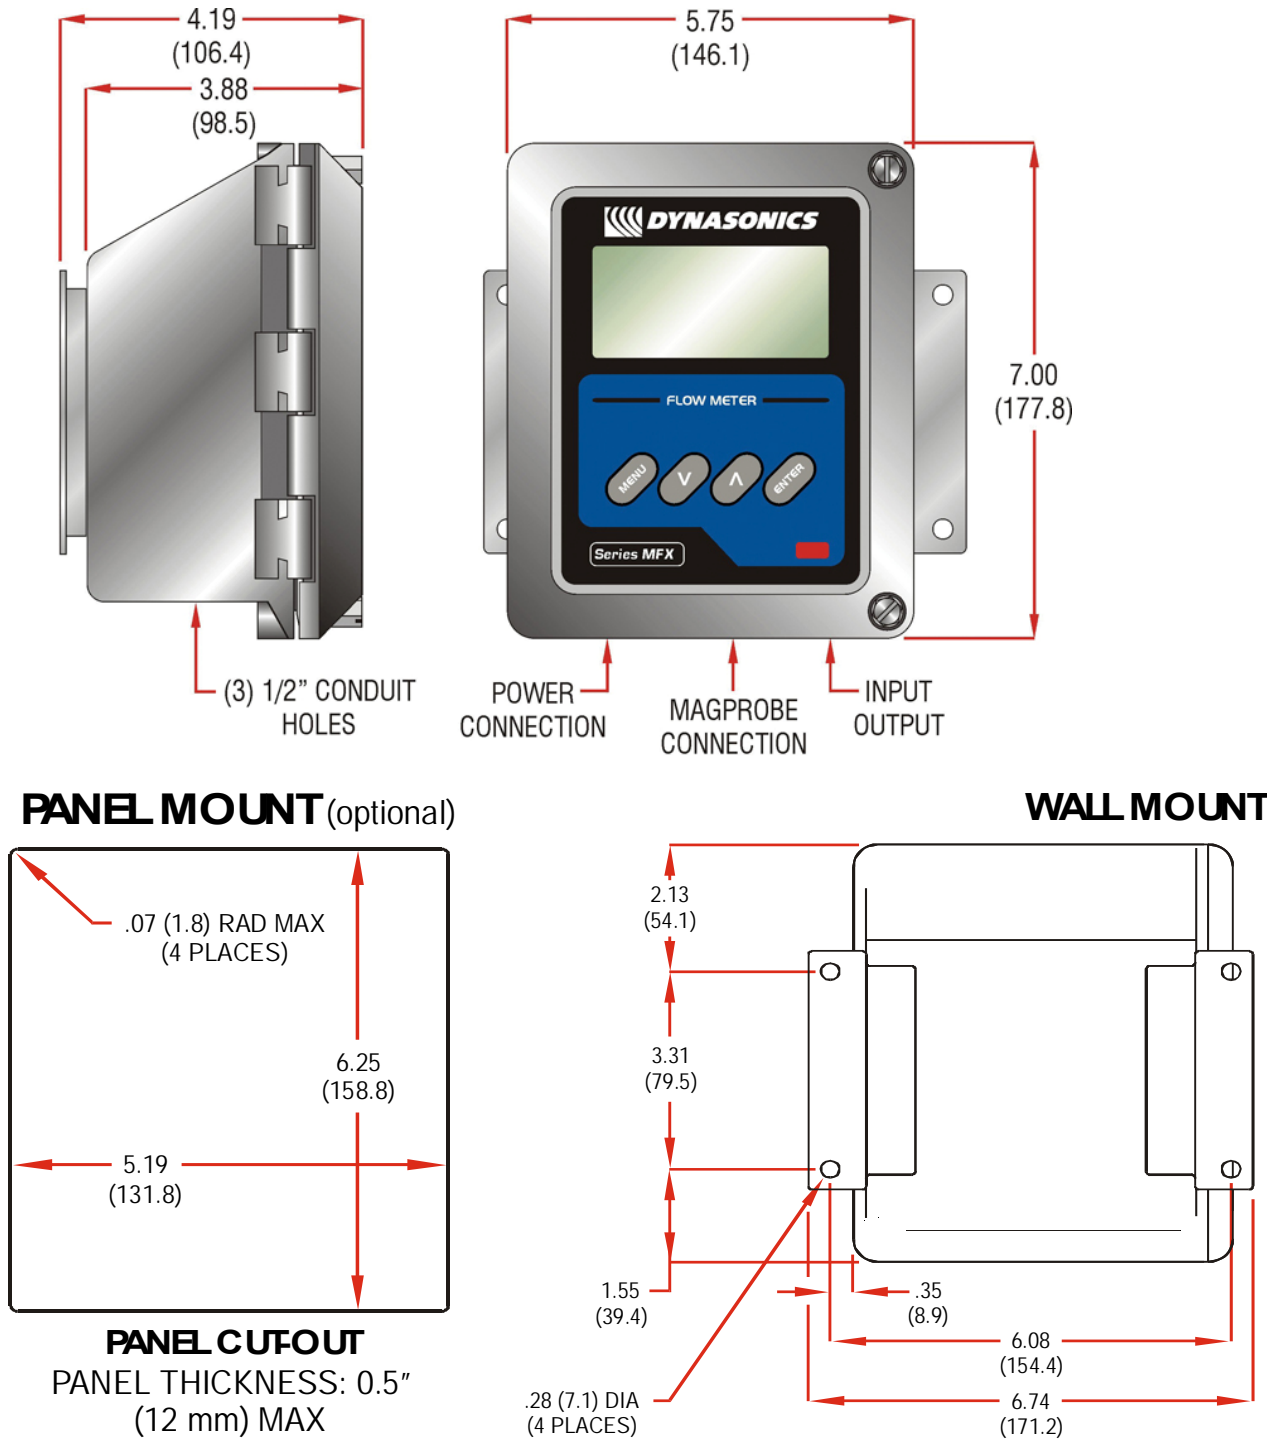

Figure 1.5 - MFX Transmitter Installation Dimensions
3. Mounting: Refer to **Figure 1.5** for enclosure and mounting dimension details. Ensure that enough room is available to allow for door swing, maintenance and conduit entrances. Secure the enclosure to a flat surface with four appropriate fasteners.